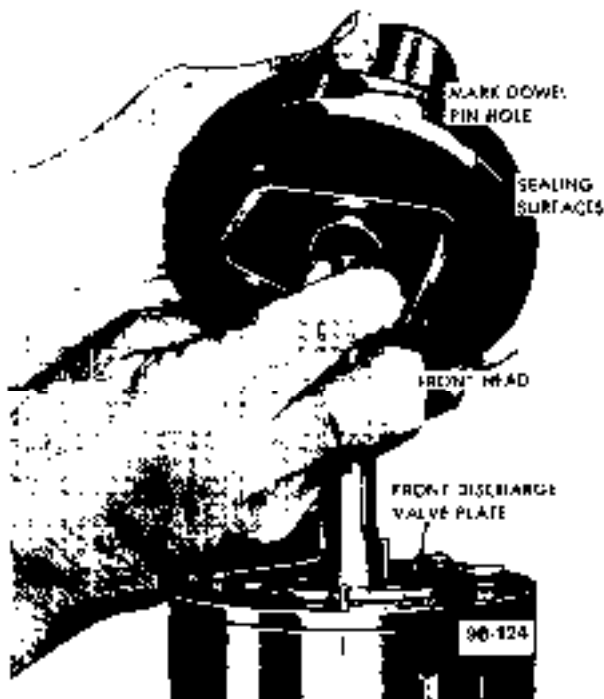

Figure 9B-154 Placing Front Head on Cylinder Assembly
4. Mark with pencil on side of front head the location of dowel pin holes (see Figure 9B-154), align front head with dowel pins, and tap head lightly with mallet to seat on cylinder assembly.